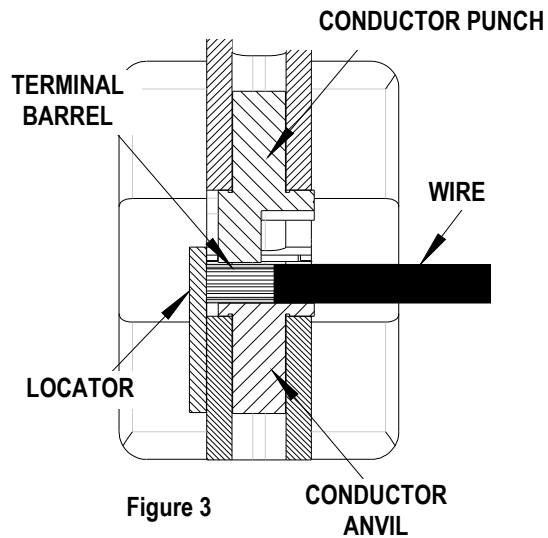

Figure 3
4. Push on the wire to assure it is fully seated in the terminal. See Figure 3. The wires end should butt against the locator. Cycle the tool.